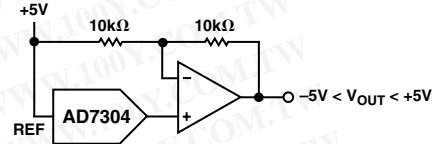

Figure 34. Four-Quadrant Multiplying Application Circuit
In some applications it may be necessary to generate the full 4-quadrant multiplying capability or a bipolar output swing. This is easily accomplished using an external true rail-to-rail op amp, such as the OP295. Connecting the external amplifier with two equal value resistors as shown in Figure 34 results in a full 4-quadrant multiplying circuit. In this circuit the amplifier provides a gain of two, which increases the output span magnitude to 10 volts. The transfer equation of this circuit shows that both negative and positive output voltages are created as the input data (D) is incremented from code zero ($V_{OUT} = -5$ V) to mid-scale ($V_{OUT} = 0$ V) to full scale ($V_{OUT} = +5$ V).